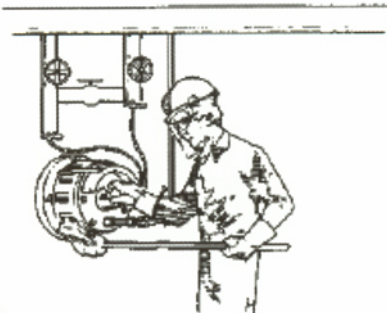

Figure 51 Adjust the primary air on pre-mix gas burners, and be sure the gas is burning steadily before removing the torch.
- When the fuel ignites, open the primary air registers until the yellow flame turns blue. Do not blow out the flame by opening the registers too much. Keep the lighted torch in place until the flame burns steadily (Figure 51).